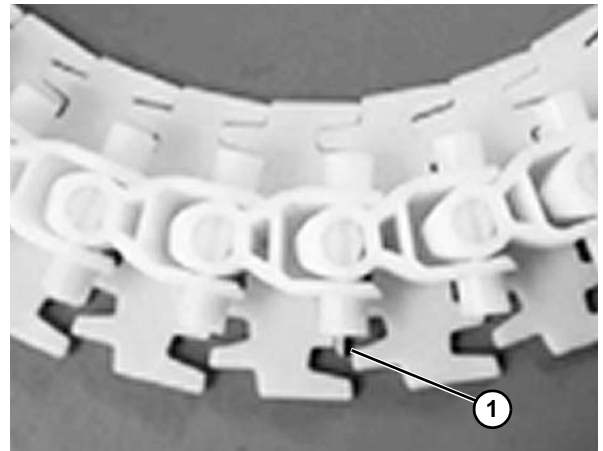

Figure 49
4. Check that the chain is flexible in the joint and that the pin does not stick out or go through the other side (**Figure 49, item 1**).